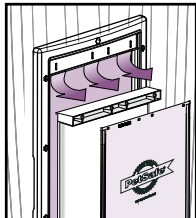
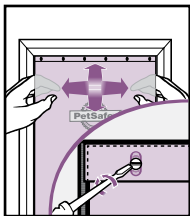

FIG. 15
FIG. 16
3. If replacing the insulated flap, remove flap clamp with attached insulated flap (**Fig. 15**). Remove screws, insulated flap and backing plate from back of flap clamp. Insert new insulated flap between flap clamp back and backing plate. Replace and tighten screws (**Fig. 16**).